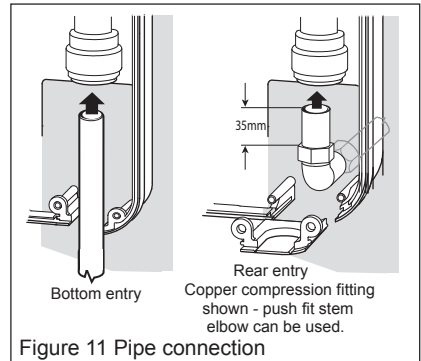

Figure 11 Pipe connection
- 5.9 The handwash has been designed for a 15mm water pipe using the pushfit connection - see Fig. 11 on page 12.
- 5.17 Connect the cold water supply pipe to the inlet of the handwash, this is a push fit - see Figure 11.